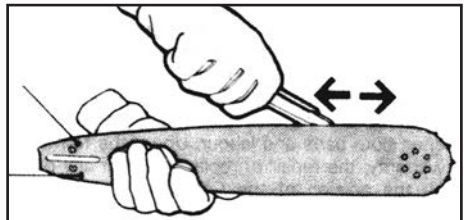

Fig. 22
1. When you have finished working, clean out the groove and the oil passages, with a special scraping hook. (Fig.22).